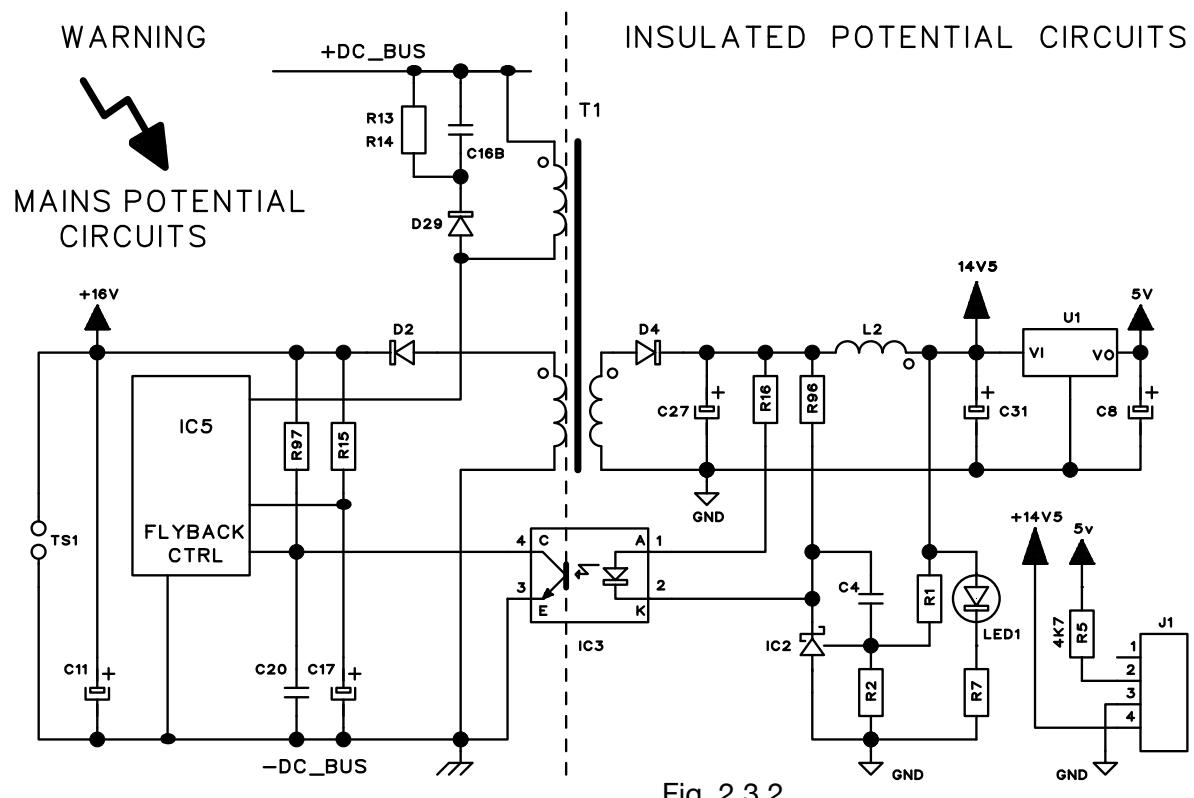

Fig. 2.3.2
These voltages are measurable on the connectors TS1 and J1, on power board (12), as indicated in Fig. 2.3.2.
- ♦ If the voltage is not present, turn off the power source and make sure there is no interruption in the power board (12) input connections or in the boost converter inductor (15) connection or check the DC-capacitors terminals are not in short circuit. If the case look for the short circuit cause between the following components: boost converter (Q2, Q3, etc.), flyback circuit (IC5, D29, C16B, R13, R14, etc.), DC-capacitors, inverter igbt and diodes (Q4 – Q9, D8, D9, etc.). Replace them if necessary.
- ♦ If the voltage remains at 330 Vdc check the boost converter circuits (IC6, Q2, Q3, Q10, etc.) and the voltage on TS1 of power board (12), as indicated in Fig. 2.3.2 (flyback and boost converter circuits power supply).
- Power board (12), connector J1, terminals:
as indicated in Fig. 2.3.2 (power board (12) circuits power supply).
- ♦ Locate the faulty components, on power board (12) be based on diagram in Fig. 2.3.2 and Connectors map in par. 5.2.
- ♦ Replace power board (12).
- Replace power board (12).